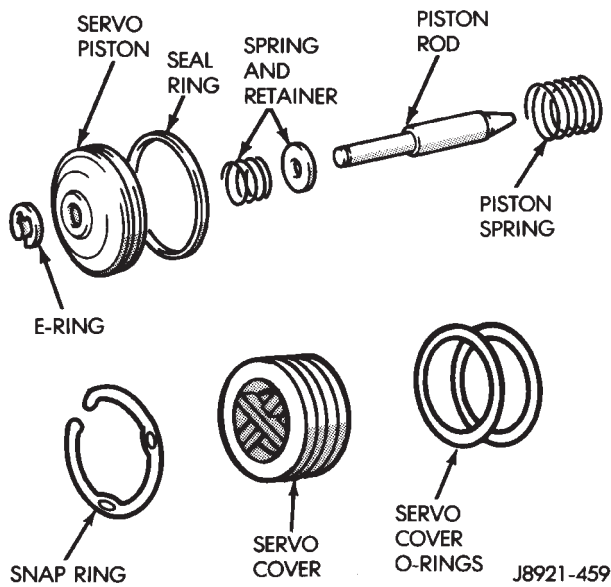

Fig. 32 Second Coast Brake Servo Components
- (4) Remove and discard seal and O-rings from cover and piston (Fig. 32). Inspect E-ring, piston, spring and retainer, piston rod and piston spring. Replace worn or damaged parts.
- (5) Install new seals on cover and piston.
- (6) Lubricate servo components with transmission fluid.
- (7) Assemble and install servo components in case. Be sure servo piston rod is properly engaged in the second coast brake band.
- (8) Compress cover and piston and install cover snap ring.
- (9) Install valve body, oil screen and oil pan. Use Mopar or Loctite 599 on oil pan sealing surface.